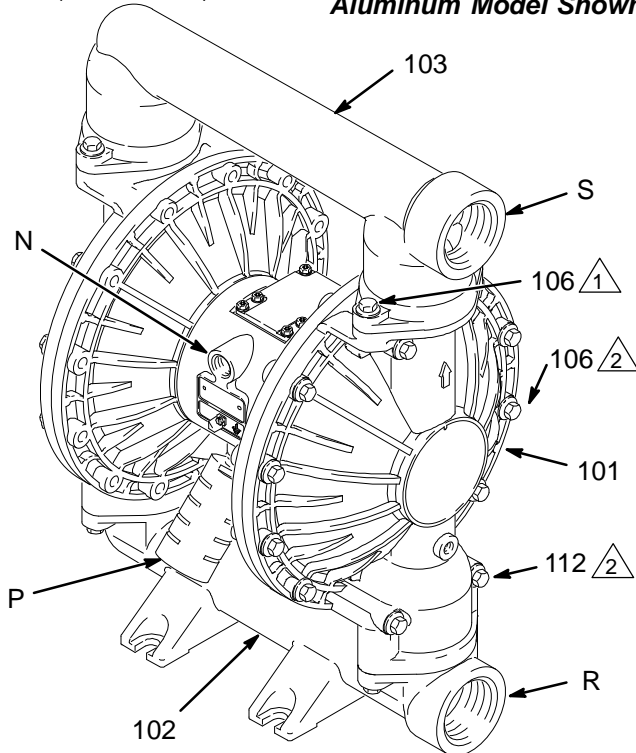

Fig. 3
- The pump is very heavy. If it must be moved, have two people lift the pump by grasping the outlet manifold (103) securely. See Fig. 3 on page 9.
The pump is shipped with the fluid inlet (R) and outlet (S) ports facing the same direction. See Fig. 3. To change the orientation of the inlet and/or outlet port:
1. Remove the screws (106) holding the inlet (102) and/or outlet (103) manifold to the covers (101).